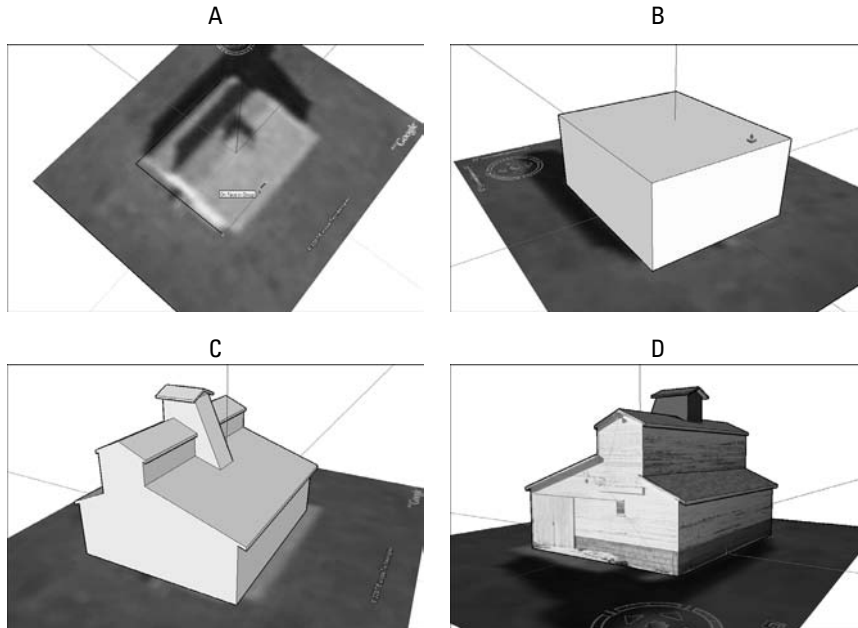

Figure 11-5:
2. Trace the footprint of the building you want to model on the imported black-and-white image (see image A in Figure 11-5).
3. Use Push/Pull to extrude the footprint to the correct height (see image B in Figure 11-5).